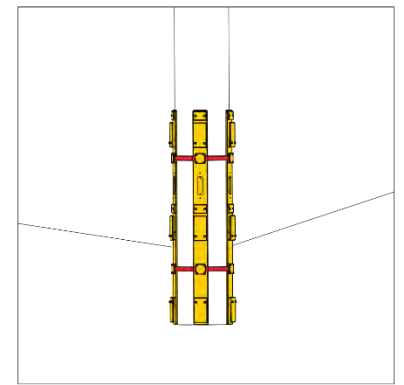

Figure 54
- Round Corner Guard (Fig. 54)